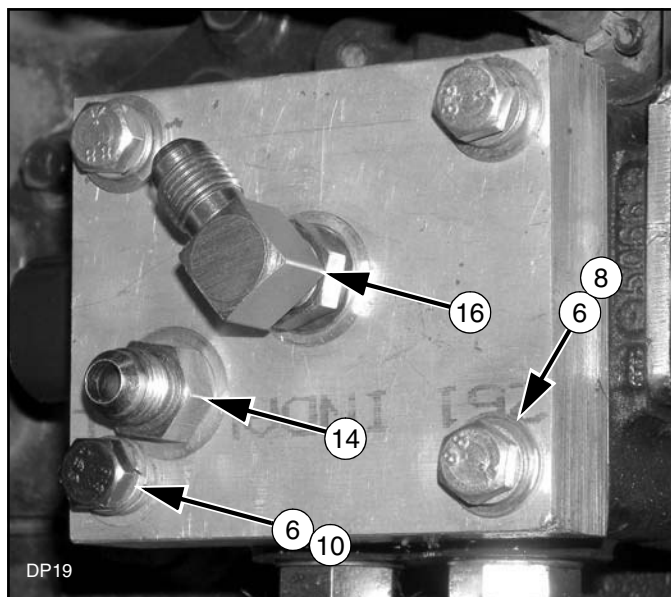

Figure 27. Hydraulic Block Installed
3. Insert O-rings (15) into the openings on the back side of hydraulic block (4).
4. Place hydraulic block (4) over hydraulic manifold and insert cap screw (10) with lock washer (6) into lower rear hole. Insert cap screws (8) and lock washers (6) into the remaining three holes.
5. Install adapter (14) and elbow (16) into hydraulic block as shown in Figure 27.